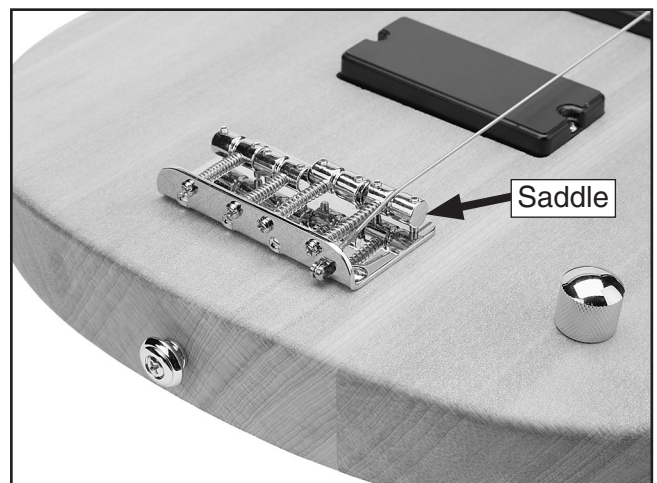

Figure 28. 1st string installed.
1. Thread a string through the hole in the bridge (**Figure 28**) across the saddle, over the nut, and through the hole in the corresponding tuning post.